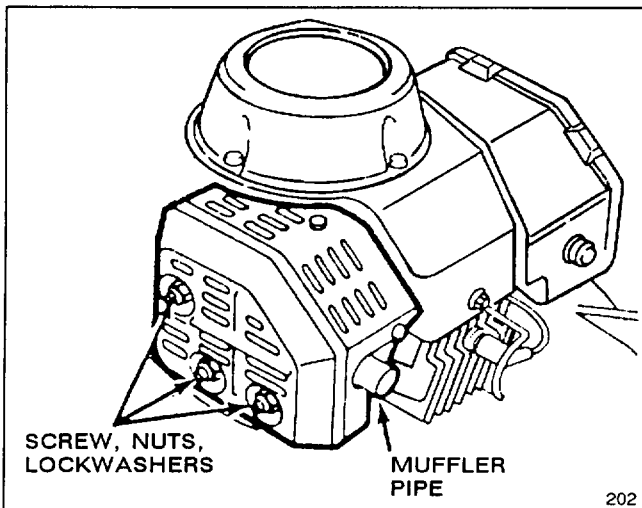

Figure 13
1. Use hard wood scraper and remove carbon from end of muffler pipe (Fig. 13).
2. Remove screw, two nuts, and lockwashers (Fig. 13). Slide muffler off mounting pins.